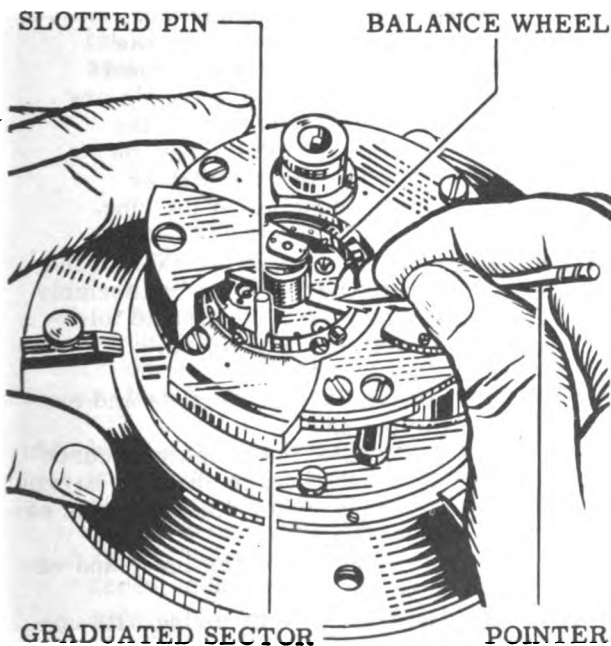

Figure 91
85. Check the lock on every tooth with special illuminator, Tool No. 104. Place graduated sector (Tool No. 12) on upper train bridge under the edge of balance wheel in the position shown in Fig. 91. Place slotted pin, with mark on the side for gaging (Tool No. 13), near the middle of the rim of the balance wheel, when it is at rest. See Fig. 91. To determine lock, turn balance clockwise with pointer (Tool No. 87) until the detent trip spring returns to its normal position. Then turn the balance counterclockwise until light can be seen between the detent and the stop button. Observe the gage at this point (refer to Fig. 91) and continue to turn the balance until the escape tooth, which is resting on the locking jewel, drops off. Again, observe the gage. The lock should measure
97. Check and adjust drop, by gaging with graduated sector and slotted pin. Refer to Fig. 91. To check drop, turn the balance counterclockwise until the escape tooth falls on the impulse jewel. Stop balance at this point and observe gage. Turn balance clockwise until the escape tooth falls off the impulse jewel. Observe gage. Allowances must be made for variations in the length of escape wheel teeth when setting the drop, to make sure that the shorter teeth do not entirely miss the impulse jewel. For the average escape wheel approximately two degrees on the graduated sector will be about right. To adjust the drop, use spanner, Tool No. 42, to change the angular distance between impulse and unlocking jewels. Increase this angular distance if the drop is too great and decrease it when the escape tooth fails to contact the impulse jewel.